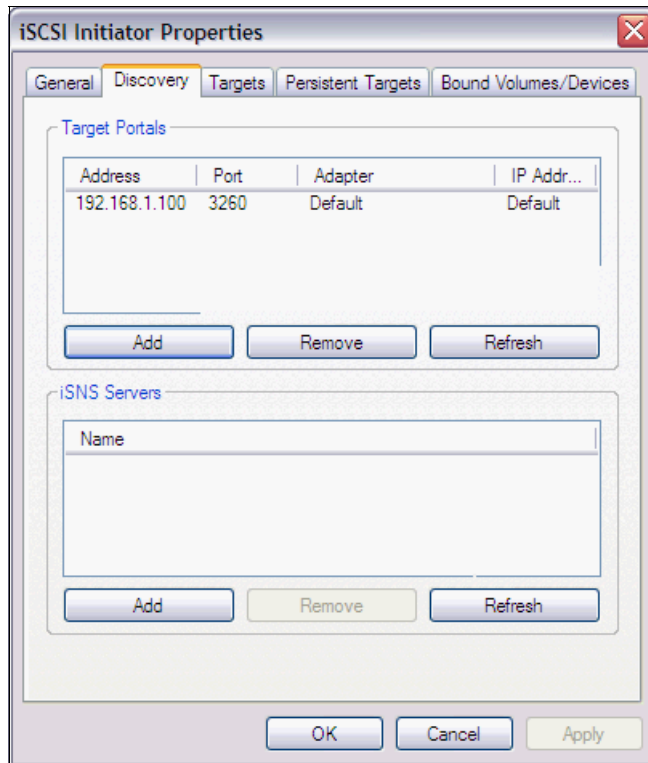

Figure 7-115 Details for Target Portal
4. Back on the **Discovery** tab (Figure 7-115), verify the Target Portals properties.